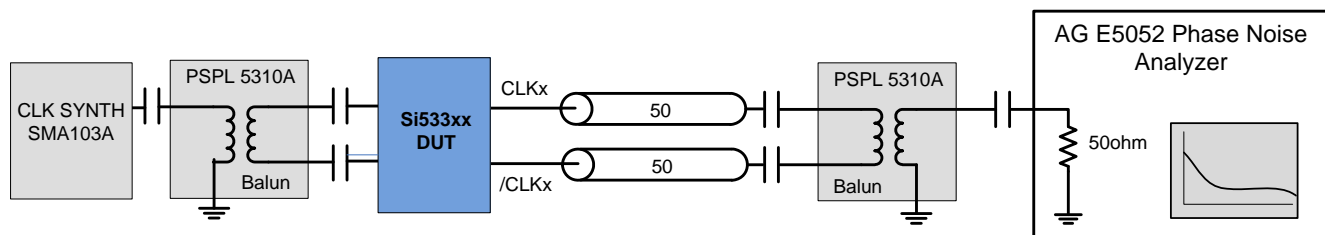

Figure 1. Differential Measurement Method Using a Balun
3. Measured differentially using a balun at the phase noise analyzer input. See Figure 1.
3. Measured differentially using a balun at the phase noise analyzer input (see Figure 1).
Total Jitter (Diff'l): Combined source and clock buffer phase noise measured as a differential output to the phase noise analyzer and integrated from 12 kHz to 20 MHz. The differential measurement as shown in each figure is made using a balun. See Figure 1 on page 10.